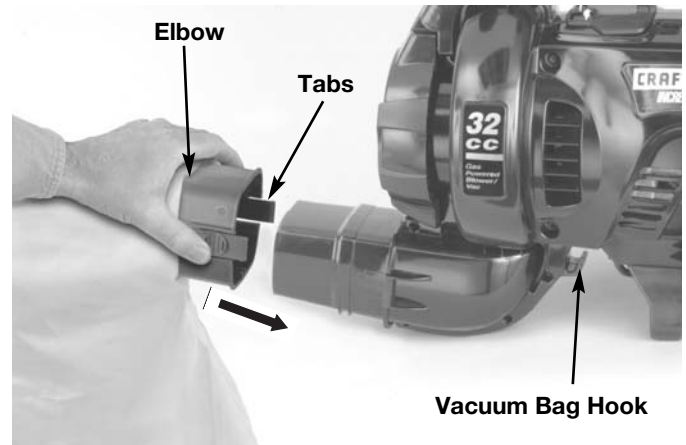

Fig. 5
7. Install the vacuum bag adapter over the blower outlet and push on it until both tabs snap into place (Fig. 5). Position the bag so it hangs below the unit.
2. Remove the vacuum bag by pressing both tabs on the vacuum bag elbow at the same time and pulling the bag off the blower (Fig. 5).